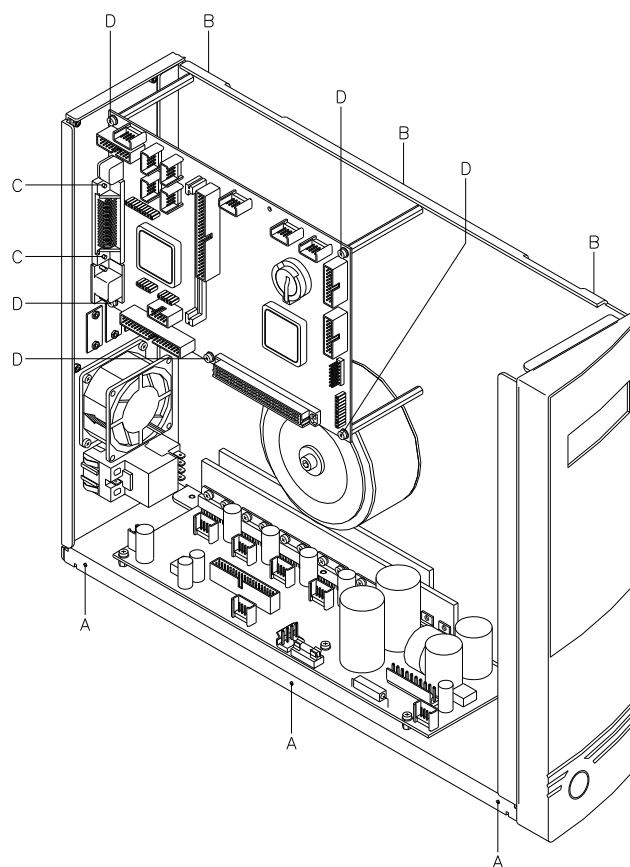

Figure 11
2. Secure PCB with the 5 fixing screws (D, Figure 11).
3. Fasten the 2 fixing screws (C, Figure 11) of the Centronics interface.
6. Install again the left printer cover with screws (A + B, Figure 11).